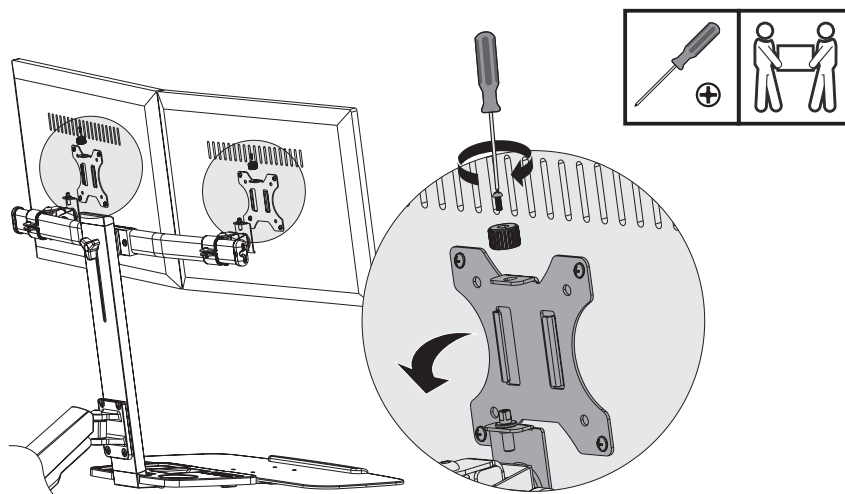

Figure 12
4. Mount the monitor with VESA Plate onto the Mounting Arm and secure it using a Phillips screwdriver, see Figure 12.